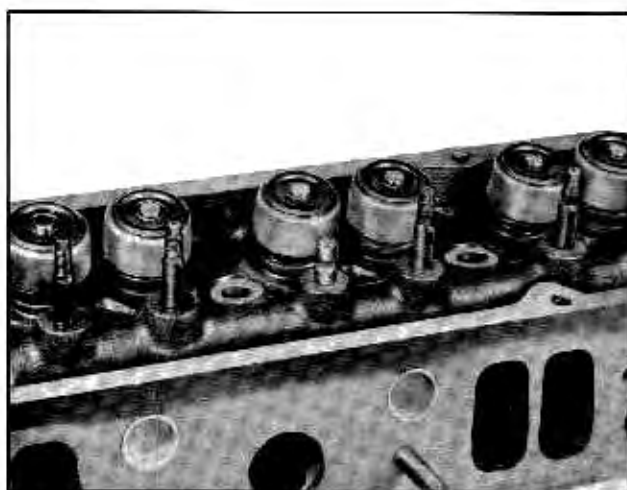

Fig. 6-18 Slots Filed in Rocker Arm Stud
2. With rocker arm removed, file two slots $\frac{3}{32}$ " to $\frac{1}{8}$ " deep on opposite sides of rocker arm stud (Fig. 6-18). Top of slots should be $\frac{1}{4}$ " to $\frac{3}{8}$ " below thread travel.